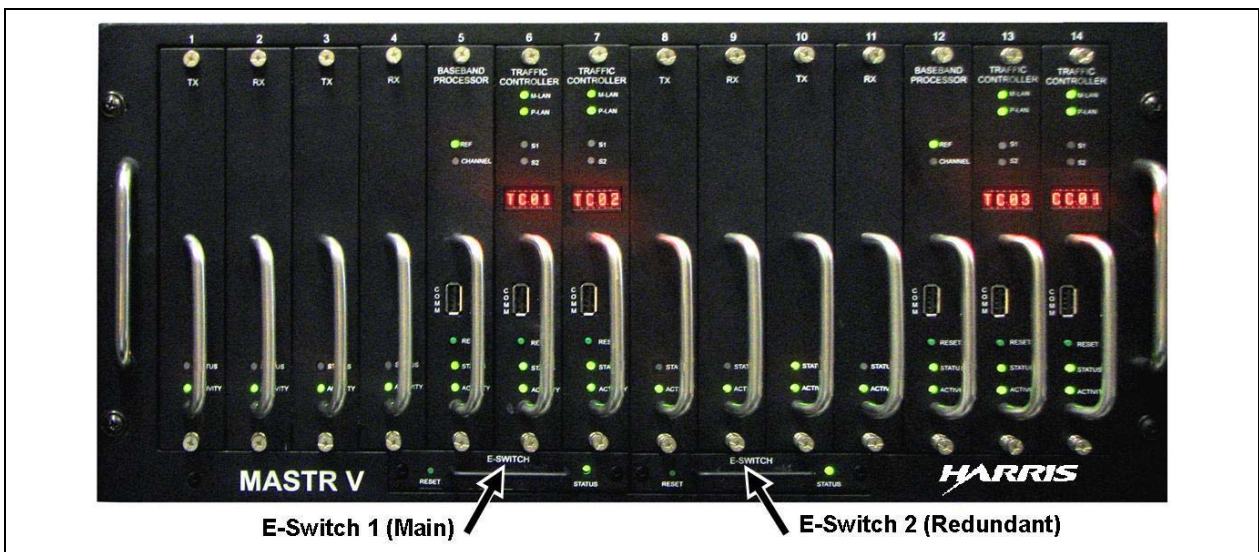

Figure 4-1: MASTR V 700/800 MHz Base Station Shelf equipped with Four (4) RF Channels
When equipped for multiple channel 700/800 MHz operation, the 14-slots may be populated as shown in Figure 4-1 with the modules listed in Table 4-1. The VHF and UHF receiver modules require two (2) shelf slots; therefore, module assignment varies slightly (refer to Table 4-2). Other module combinations and slot assignments are possible depending on the specific LMR application and system requirements.